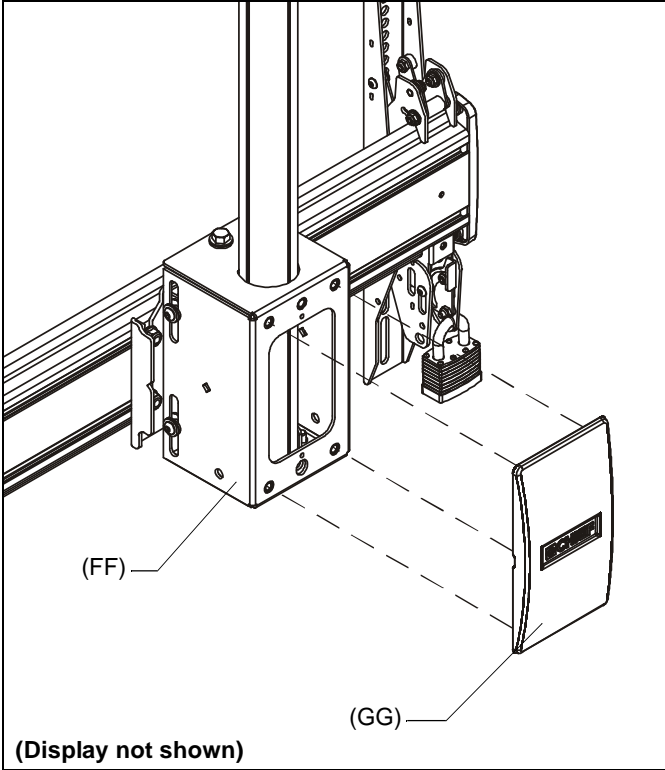

Figure 18
- 2. Install back cover (GG) into four holes on back of both array heads (FF). (See Figure 18)